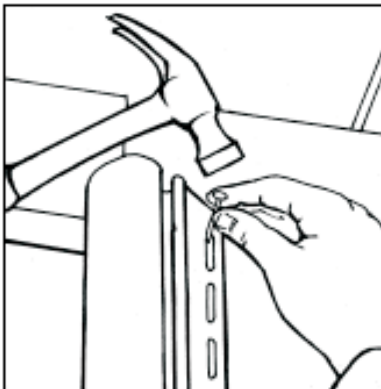

Figure 2
- 2) Install $3\frac{1}{2}$ " or 5" lineal into the connector by starting at the top or the bottom and pushing the locking leg of the lineal into the channel of the corner connector. The lineal must also be $\frac{1}{4}$ " from the eave or soffit. Nail the lineals in the same manner as the connector (Figure 2). Repeat on other side. *Be sure not to nail tight. Hang the lineals and nail loosely.*